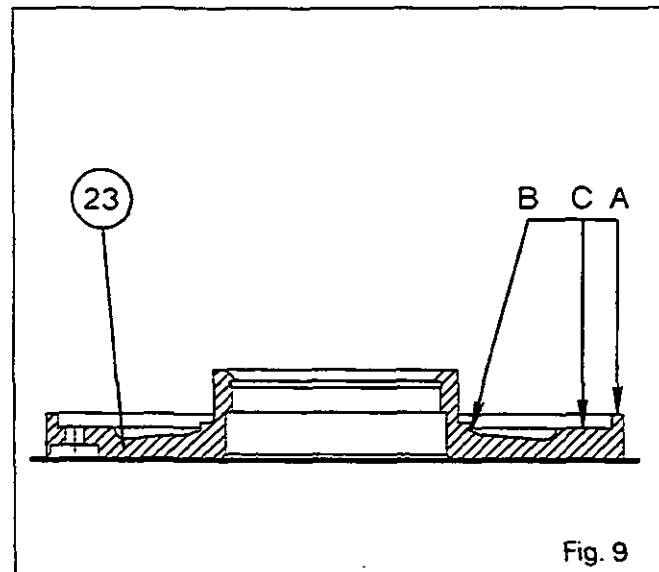

Fig. 9
48. Using a depth gauge, measure the side between faces B and C, taking face A as reference (Fig. 9) (the inner diameter of the Belleville springs (4) that outer diameter contacts D face).